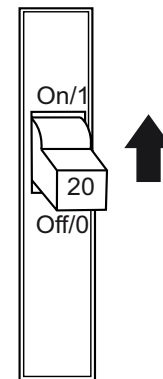

Figure 51. GFCI Circuit Breaker
2. Place the **GFCI circuit breaker** (Figure 51) in the **ON** position.